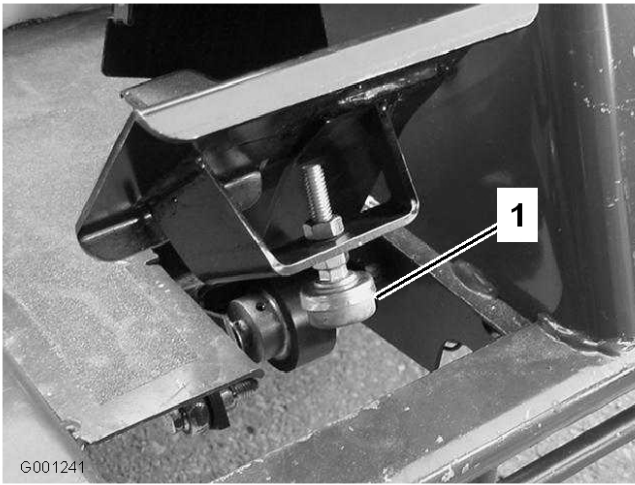

Figure 62
- Check the traction pedal stop adjustment. The pedal stop (Figure 62) should contact the frame slightly before the pump reaches full stroke.